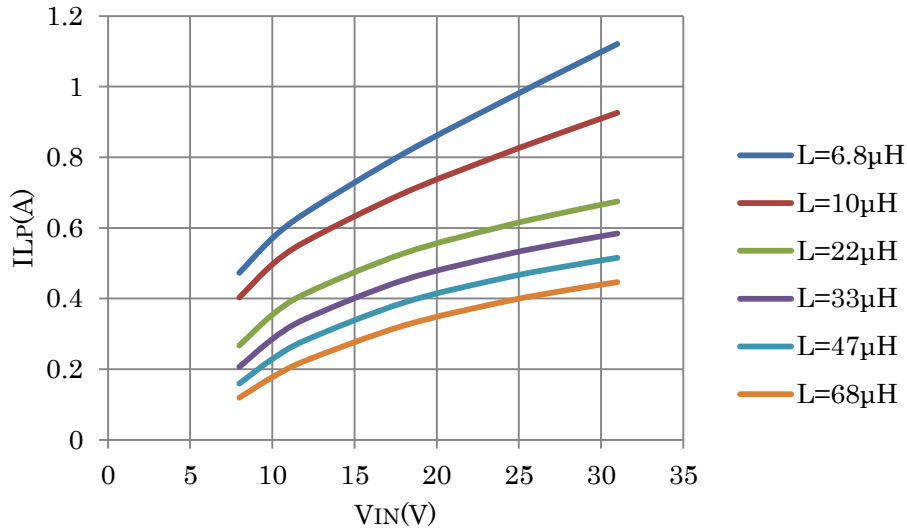

Fig. 7-10  $V_{\text{IN}}$  vs.  $I_{\text{L}}$  characteristics (with inductance L variation)
In actual operation confirmation of the standby-light load, if the audible-noise by the operation of an audible-frequency-range occurs, please adjust the inductance(L) of the inductor in reference to the equation (6). However, if the Fskip becomes higher, power consumption will increase. Please be careful. In pulse skipping operation, the  $I_{\text{LP}}$  of equation (6) is limited to a constant value determined by the input voltage  $V_{\text{IN}}$  and use inductor inductance L. But, it has the input voltage dependence such as Fig7-10. If you wish to calculate the Fskip, please pick up the value of the  $I_{\text{LP}}$  from Fig7-10 and substitute the  $I_{\text{LP}}$  to equation (6).